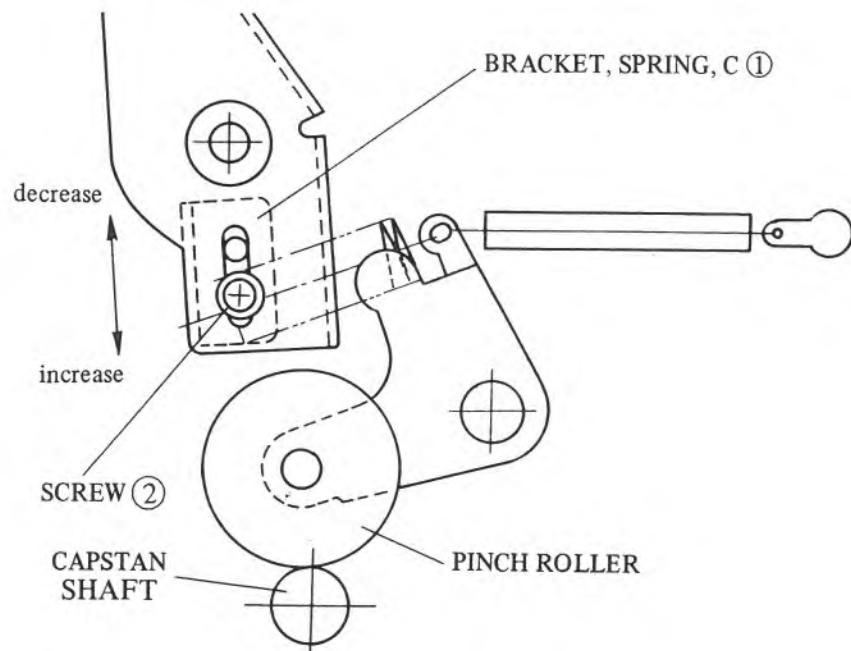

Fig. 4.4
- 5) If the reading is off specification, loosen the screw ② and move the Bracket, Spring ① in direction of arrow shown in Fig. 4.4.